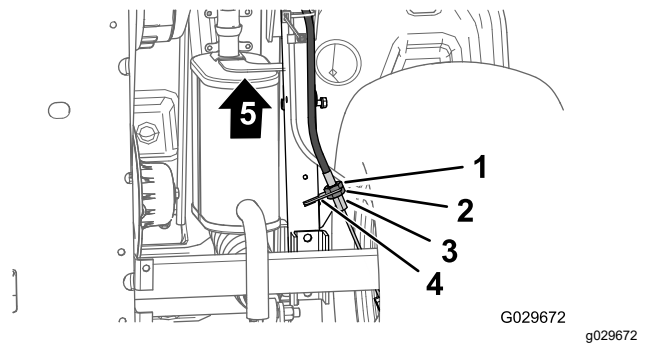

Figure 50
3. At the bottom of the machine, loosen the rear jam nut for the threaded adjuster of the parking-brake cable 4 turns (Figure 50).
4. Tighten the forward jam nut (Figure 50).
- A. Loosen the forward jam nut (Figure 50) for the threaded adjuster of the parking-brake cable 1 turn.
- B. Tighten the rear jam nut (Figure 50).
- A. Loosen the rear jam nut (Figure 50) for the threaded adjuster of the parking-brake cable 1 turn.
- B. Tighten the forward jam nut (Figure 50).